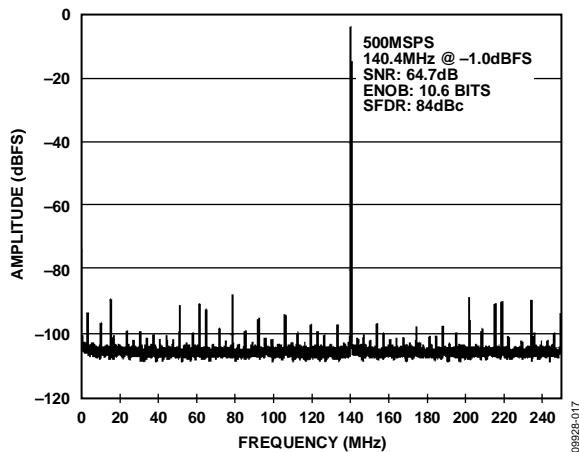

Figure 17. Typical FFT, AD9434
2. Click the disk icon within the **Graph** window to save the performance plot data as a .csv formatted file. See Figure 17 for an example.